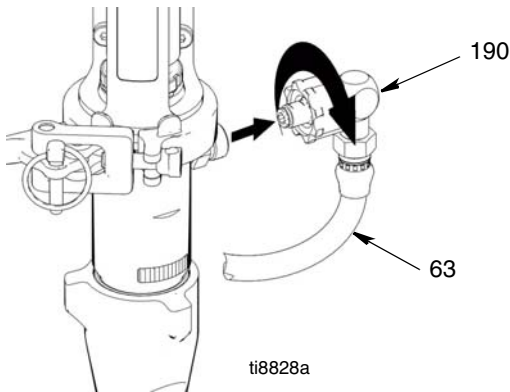

FIG. 14
4. (Fig. 14) Remove paint hose fitting (190) and paint hose (63) from pump fitting.